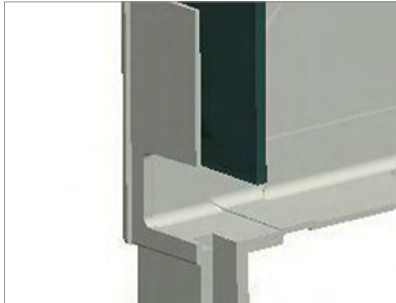

Fig. 3.4
- lower edge of safety plate must not overlap the lower window on the back panel of the end cap (for **SF250**, **SF250/S**, **SF300** end caps) (fig. 3.4).